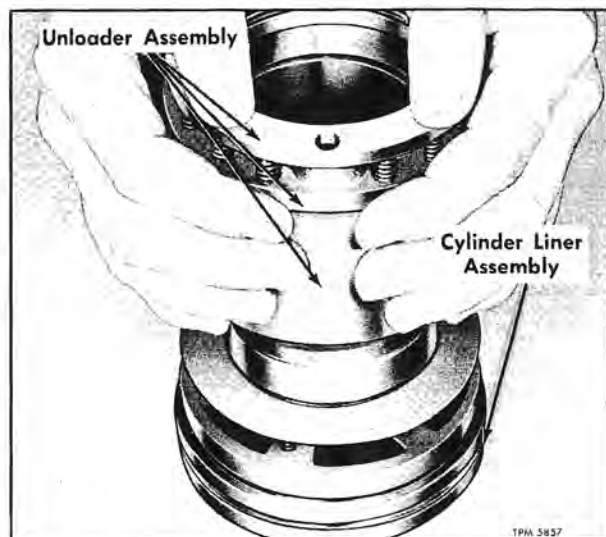

Figure 86—Installing Unloader Assembly
by two O-ring seals (50). Oil external surfaces of cylinder liner and inside diameter of unloader with clean compressor oil. Referring to figure 86, position liner as shown on a clean flat surface, then press unloader mechanism slowly and evenly down over liner.